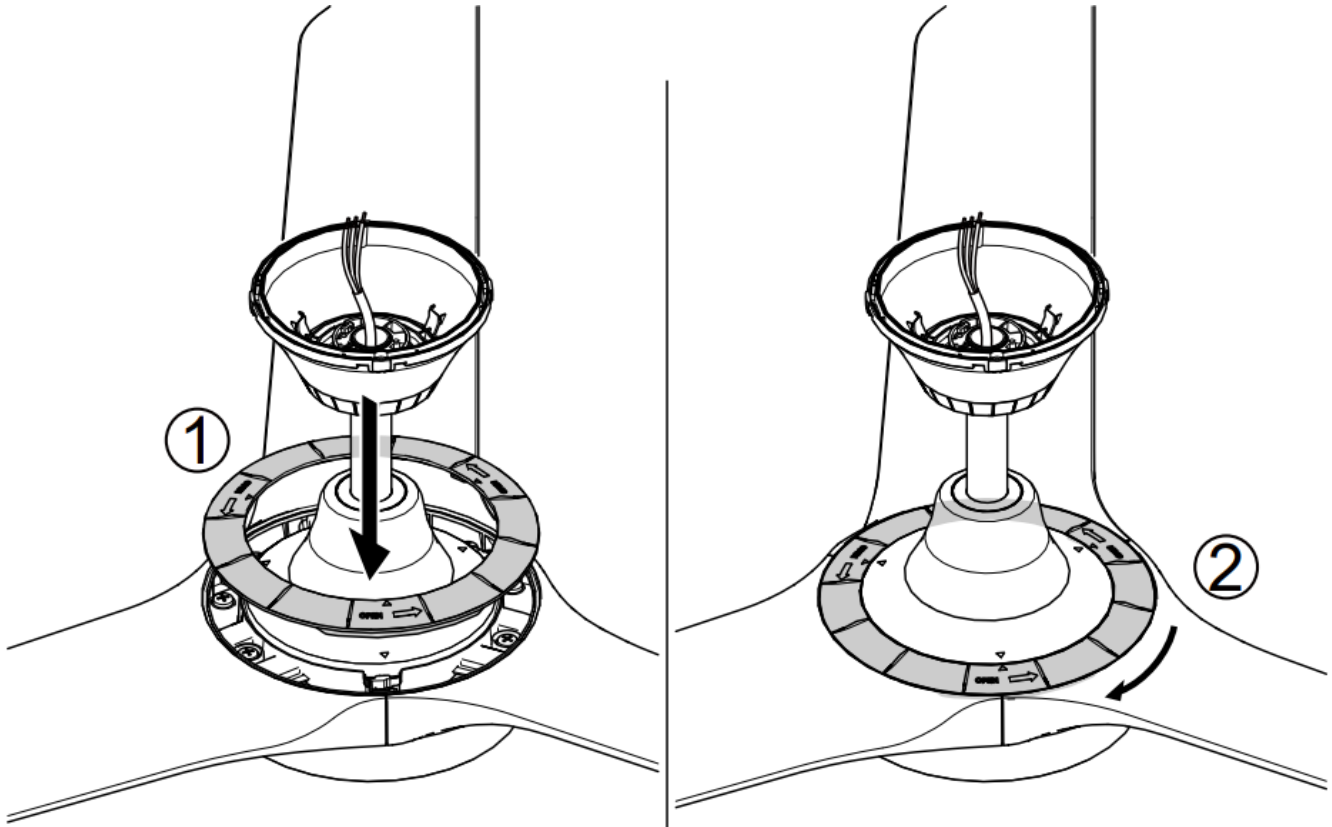

Fig. 9
3. Install the fan host ring cover back to the motor assembly. Lock it by turning clockwise. (Fig.9)